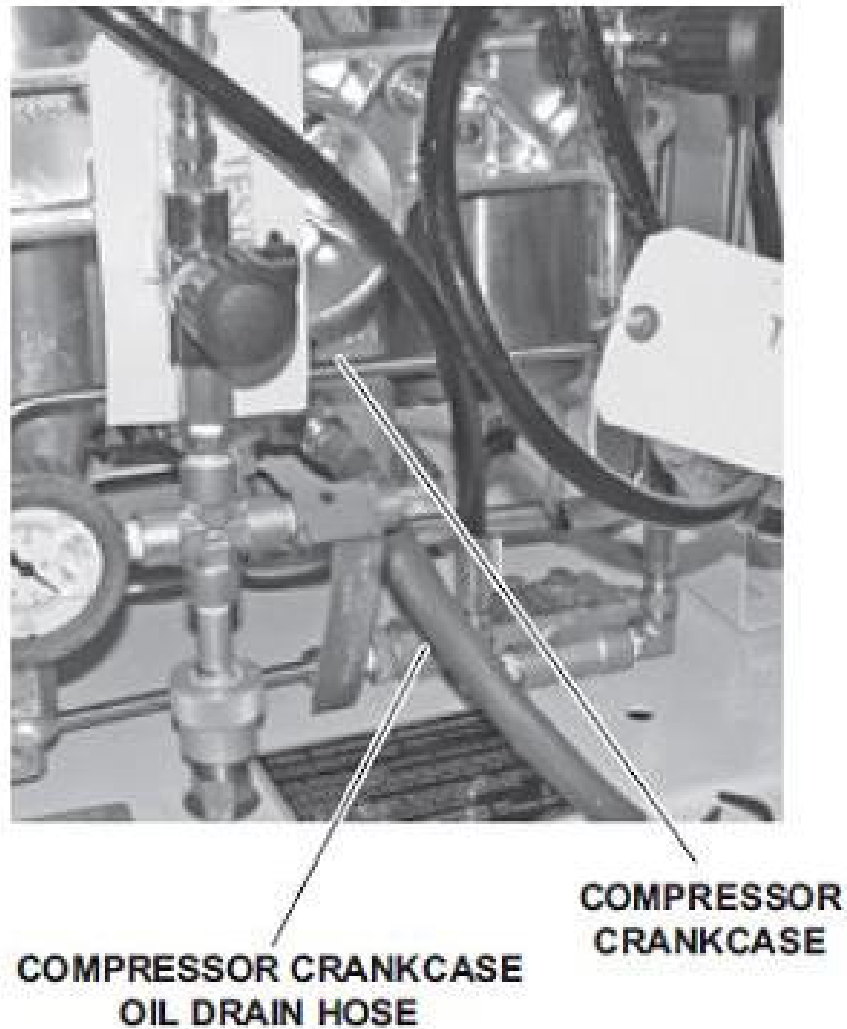

Figure 551-8ST-1004\_20 (Air Compressor Unit Assembly)
(1) Inspect the final separator condensate drain valve to ensure that it opens and closes without binding.
(2) If the final separator condensate drain valve will not open or close without binding it is not ready/available.
g. Check the air compressor unit assembly before use. (Figure 551-8ST-1004\_20)